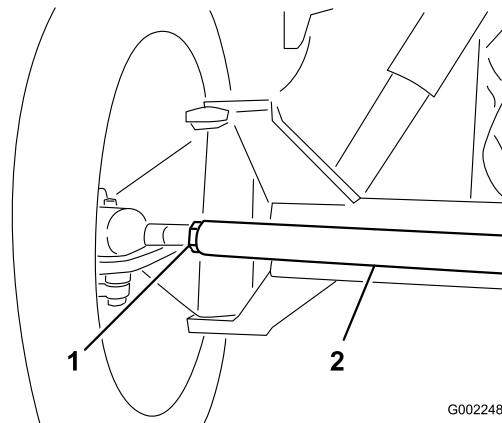

Figure 135
3. If the measurement does not fall within the specified range, loosen the jam nuts at both ends of the tie rod (Figure 135).